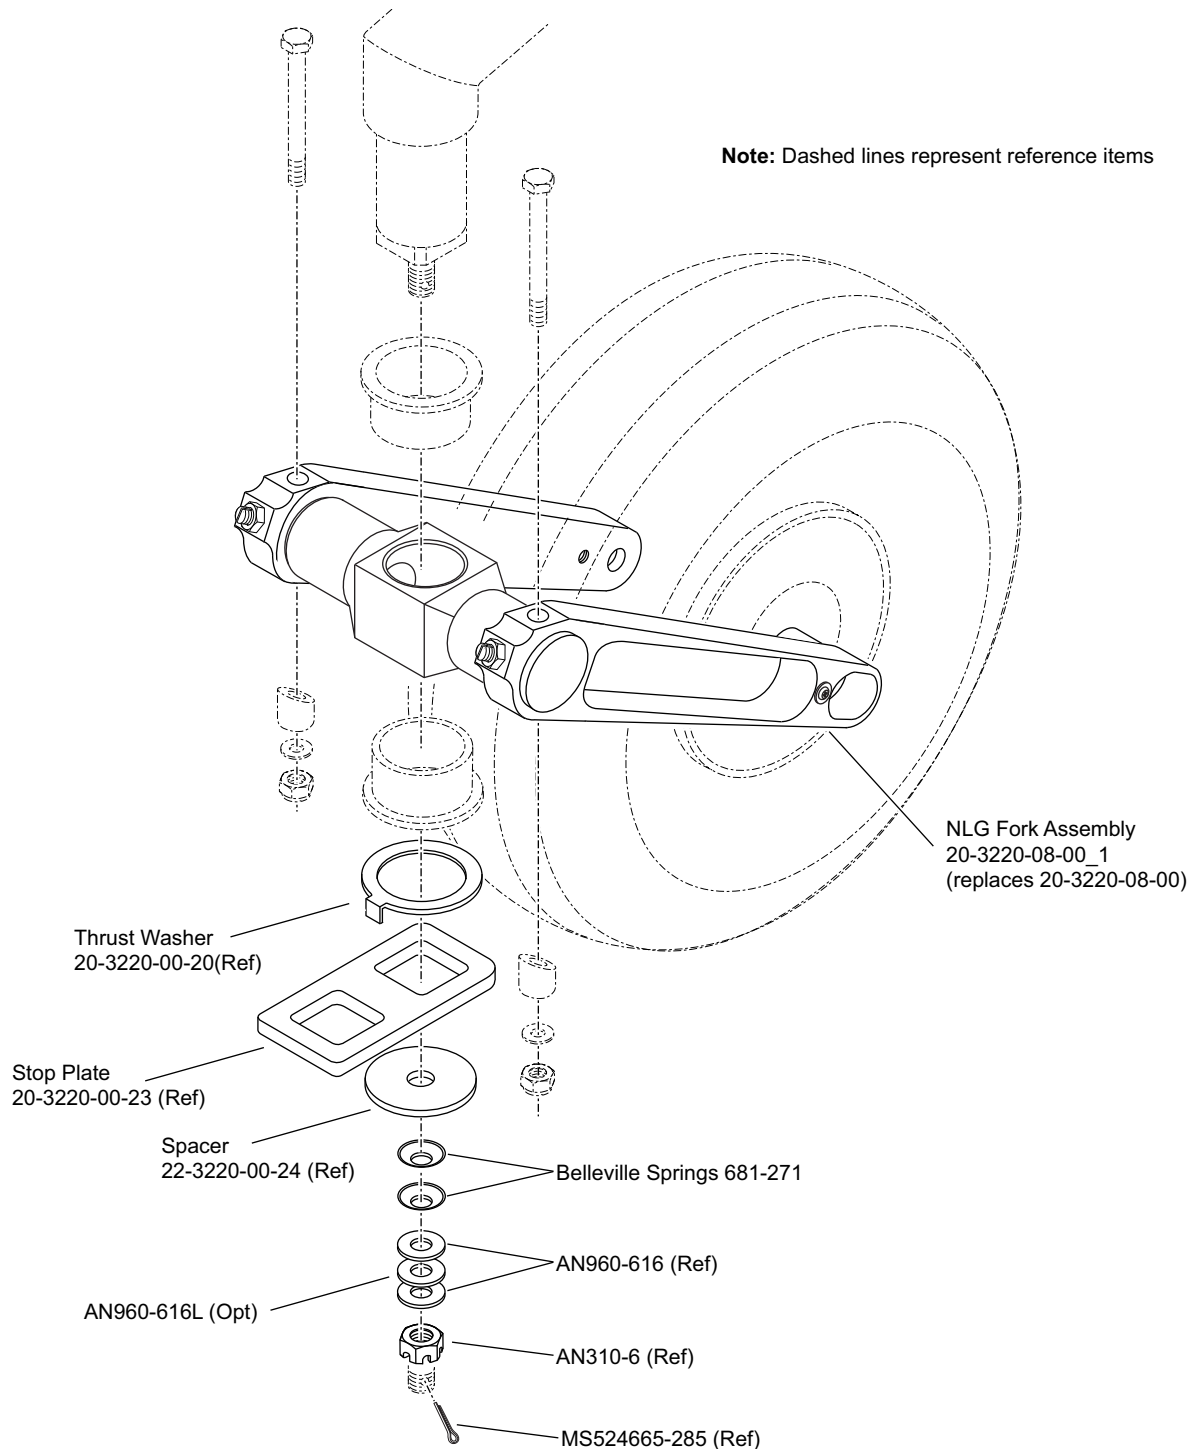

Figure 1 - NLG Fork Assembly Installation
- 10.7** Re install the fork using the new Belleville springs with the rest of the parts listed in figure 1. Be sure that both springs are installed with the open side facing up as per figure 1.